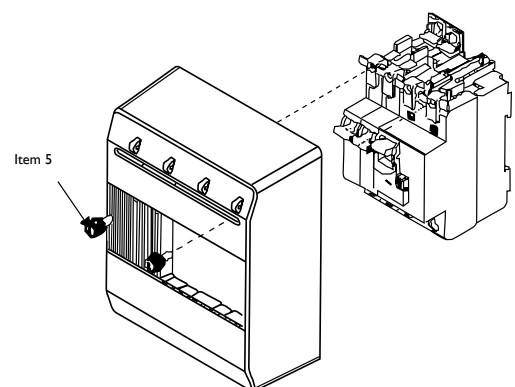

Figure 6
2. Secure shroud using at least two mounting screws (item 5) as shown in figure 6.